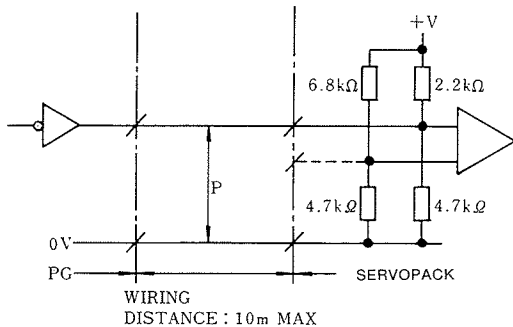

Fig. 9 Input Circuit 2
- Input circuit: Same as Fig. 9.